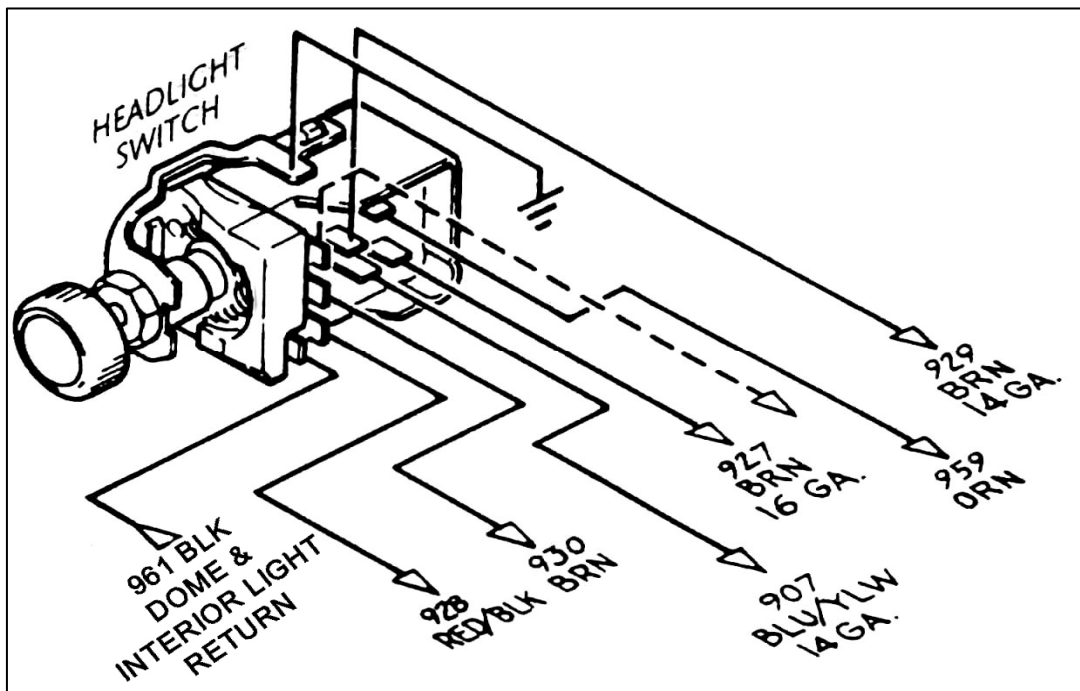

Figure 15-1 HEADLIGHT SECTION B Wiring (Painless Part #80152)
15.0 HEADLIGHT SECTION B (Headlight Switch). See Figure 15-1.
Note: On late-style GM headlight switches, the park lights terminal to which wire #927 (brn) is connected (shown in **Figure 15-1**) has been omitted. In this case, wire #927 must be connected as indicated by the dashed line in **Figure 15-1**.